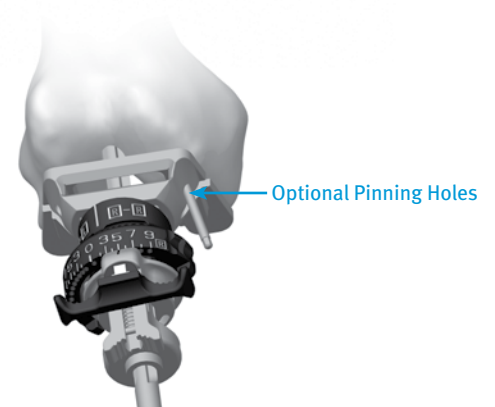

Fig. 6
*If the epicondyles are visible, the epicondylar axis may be used as a guide in setting the orientation of the Femoral Valgus Alignment Guide. This does not set the rotation of the femoral component, but keeps the distal cut oriented to the final component rotation. If desired, the guide can be pinned to provide rotational stability (Fig. 6).*